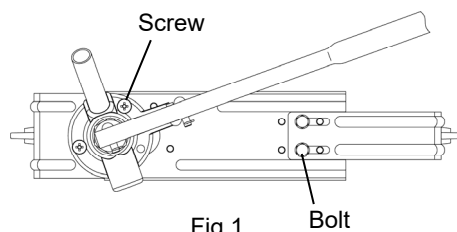

Fig.1
- 3) If the width of the bracket does not fit the pail, remove the two bolts from the bracket and adjust the position of the bracket. Also, if the pump does not fit the opening of the pail, adjust the position of the pump by removing the two screws. (Fig.1)